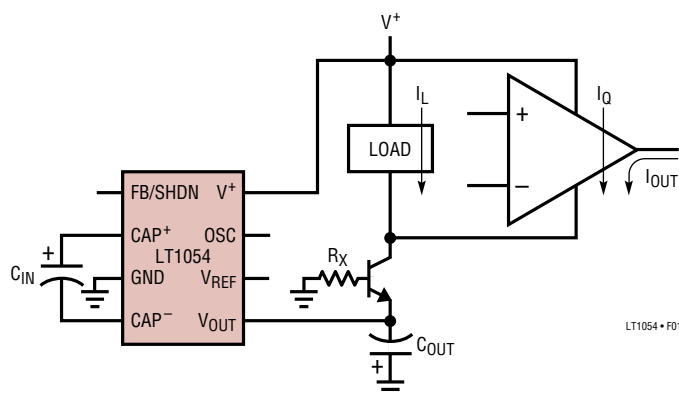

Figure 1
**$V_{OUT}$  (Pin 5):** In addition to being the output pin this pin is also tied to the substrate of the device. **Special care must be taken in LT1054 circuits to avoid pulling this pin positive with respect to any of the other pins.** Pulling Pin 5 positive with respect to Pin 3 (GND) will forward bias the substrate diode which will prevent the device from starting. This condition can occur when the output load driven by the LT1054 is referred to its positive supply (or to some other positive voltage). Note that most op amps present just such a load since their supply currents flow from their  $V^+$  terminals to their  $V^-$  terminals. To prevent start-up problems with this type of load an external transistor must be added as shown in Figure 1. This will prevent  $V_{OUT}$  (Pin 5)